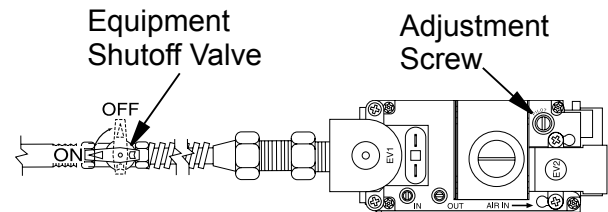

Figure 37 - Turning Equipment Shutoff Valve to the OFF Position
- Turn equipment shutoff valve clockwise  to the OFF position (see Figure 37).
- Wait five (5) minutes to clear out any gas. Then smell for gas, including near the floor. If you smell gas, STOP! Follow "B" in the safety information, column 1. If you don't smell gas, go to the next step.
- Turn adjustment screw marked PILOT clockwise to decrease or counterclockwise to increase the flame to proper size (see Figure 37, Page 17). Do not remove adjustment screw.